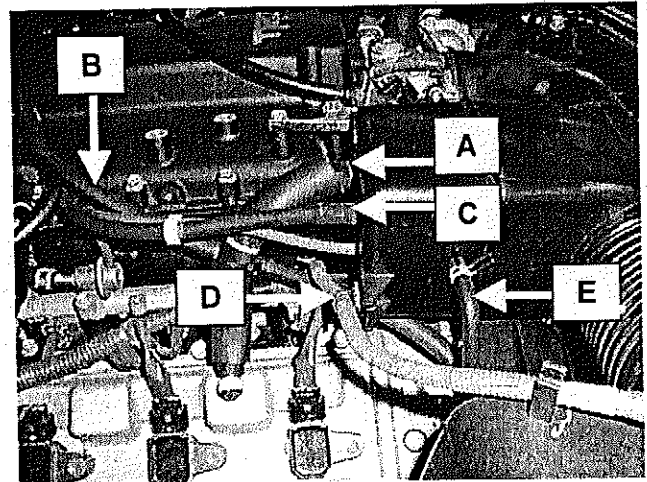

Figure 3
5. Remove the following from the air inlet tube (Figure 3):